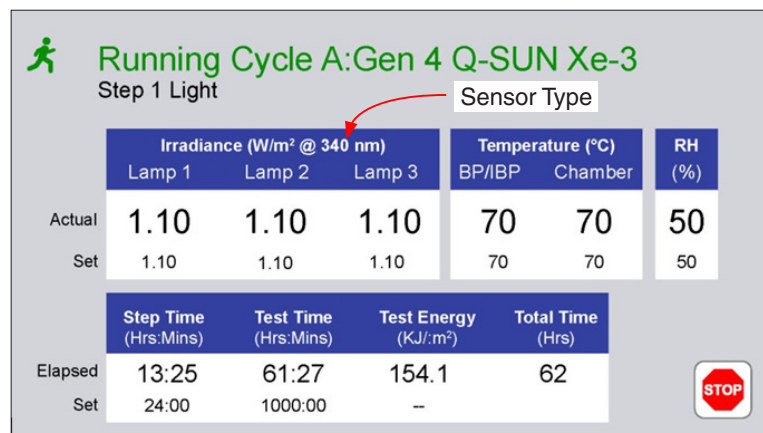

Figure 6.3b: Sensor type shown on Xe-3 Status display.
- The installed sensor type is displayed on the tester control panel Status Screen (Figure 6.3b).